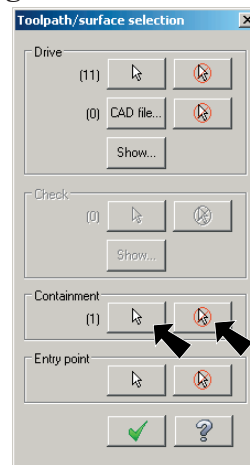

Fig. 58
Step 8. Click **Deselect Containment** button, **Fig. 58**.
Step 9. Click **Containment Select** button, **Fig. 58**.